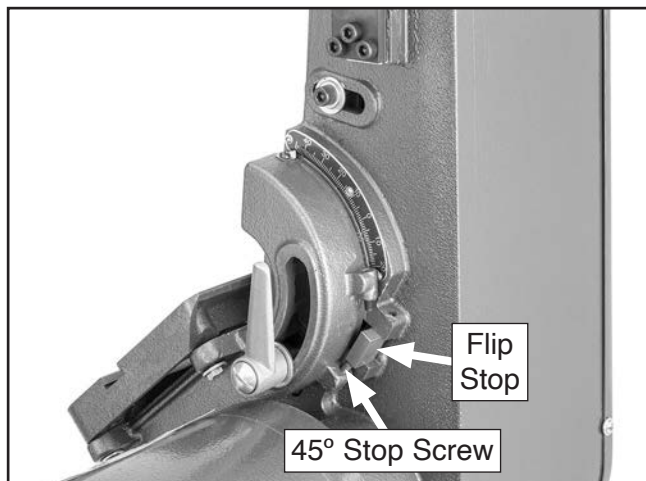

Figure 50. Flip stop engaging 45° stop screw.
4. Adjust table down so pointer points between 35°–45° down, engage flip stop, then lift table until flip stop contacts 45° stop screw (see **Figure 50**).